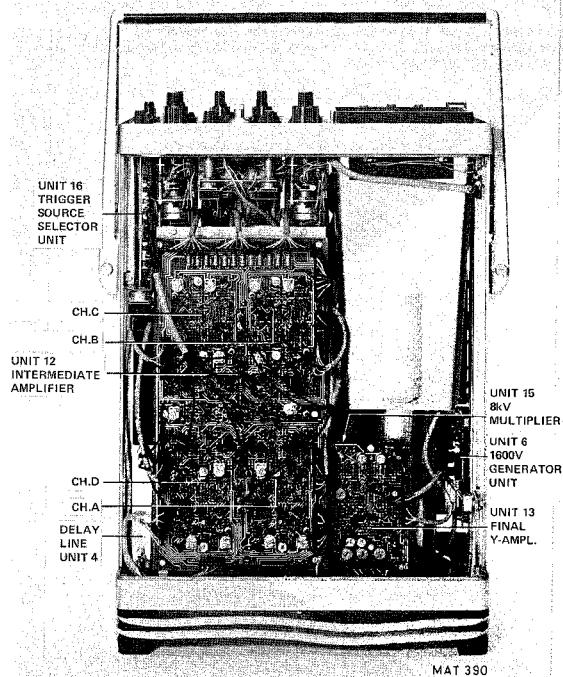

Fig. 3.4. Unit location, top view
This section provides the dismantling procedures required for the removal of components during repair and routine maintenance operations. All circuit boards removed from the oscilloscope should be adequately protected against damage, and all normal precautions regarding the use of tools must be observed. During dismantling procedures, a careful note of all leads disconnected must be made so that they may be reconnected to their correct terminals during assembly. For unit-location refer to Fig. 3.4 and 3.5.
**3.4.8. Removing the intermediate amplifier circuit board (fig. 3.4)**
**3.4.9. Removing the final Y amplifier circuit board (fig. 3.4)**
**3.4.10. Removing the trigger source selector circuit board (fig. 3.4)**
#### 3.4.11. Removing the delay line (fig. 3.4)